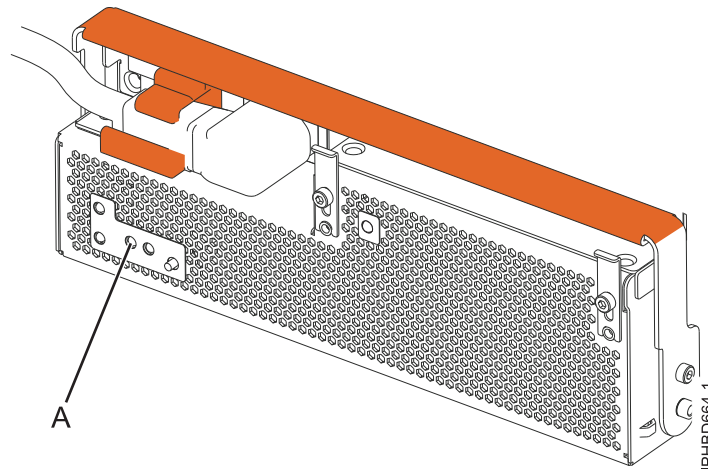

Figure 56. FRU fault and identify LED
4. At the front of the expansion unit, identify the power supply that must be replaced. To identify the power supply, observe the state of the amber field-replaceable unit (FRU) fault and identify light-emitting diode (LED) **(A)** as shown in Figure 56. A lit (flashing or on solid) LED indicates the failing power supply.